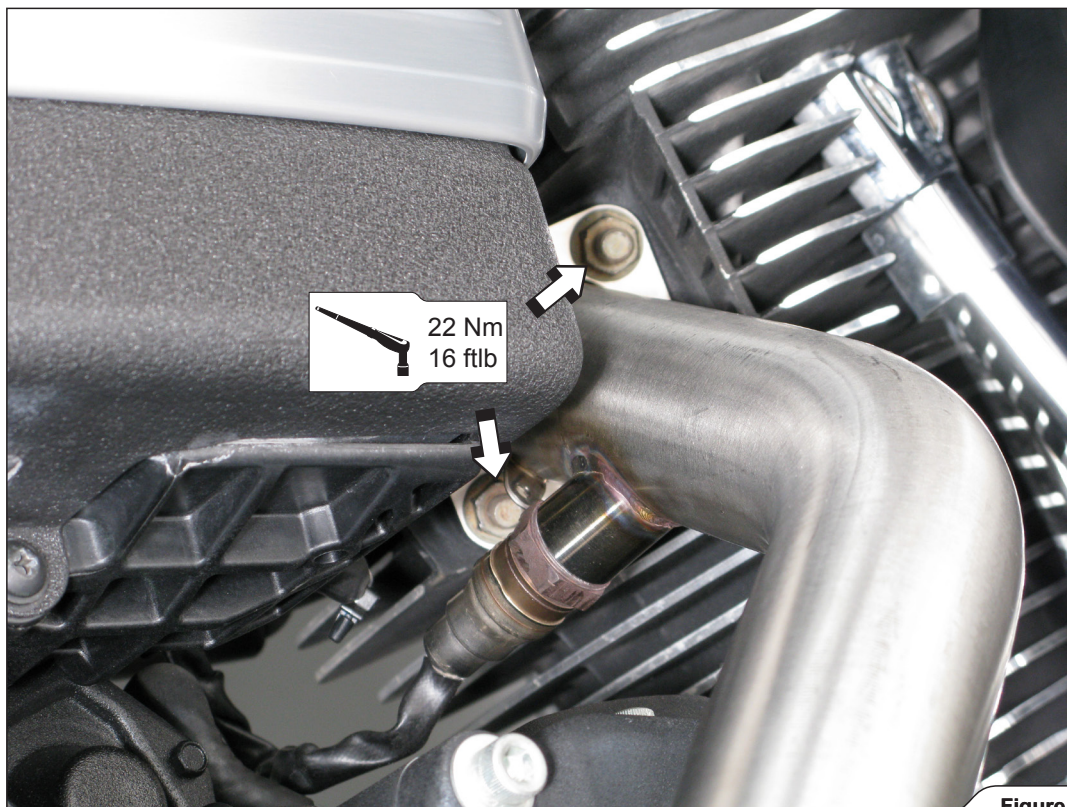

Figure 8
- Align the header pipes and tighten both headers' flanges to the specified torque (**Figure 8**).